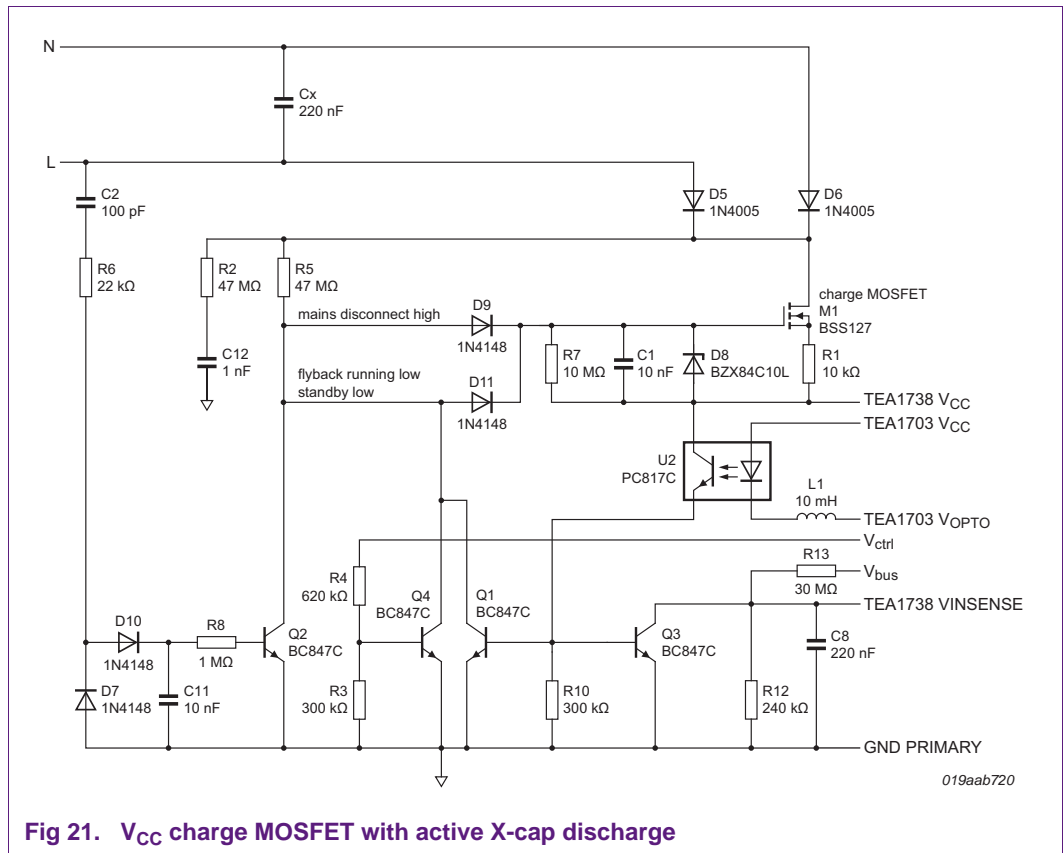

Fig 21. V_{CC} charge MOSFET with active X-cap discharge
Figure 21 shows a proposal for a VCC charge MOSFET using active X-cap discharge. The main advantages compared to the typical application shown in Figure 5 are:
- The VCC capacitor of the TEA1738 is charged using an increased charge current. Using the values shown in Figure 21, the start-up time and power-up time is reduced to 0.25 s at 115 V (AC) and 0.2 s at 230 V (AC).
The current source M1 only conducts when the mains is disconnected and during start-up of the SMPS. In all other situations, M1 is switched off to save power. In Standby mode, a low bias current maintains the loop formed by M1, U2, Q1 and the TEA1738 V_{CC} is controlled at 0.5 V. During power-up, V_{CC} is quickly charged by M1 and the output voltage is available within 0.25 s (depending on the load and mains voltage). R1 sets the current source charge current. The values shown in Figure 21 give an average charge current of approximately 700 μA, (the maximum clamp current on pin VCC). The maximum dark current allowed is 1.5 μA.